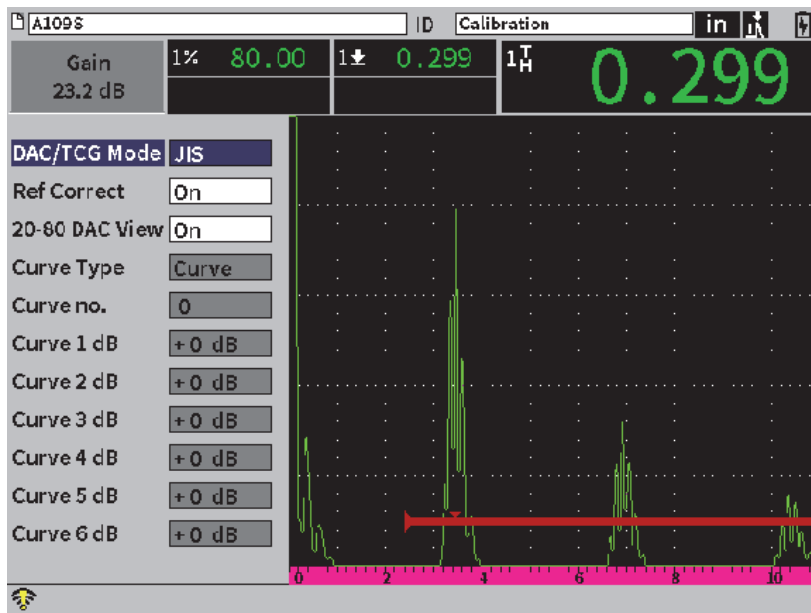

Figure 11-15 JIS mode
- In the DAC/TCG dialog box, turn the adjustment knob to set the **DAC/TCG Mode** to **JIS** (see Figure 11-15 on page 169).